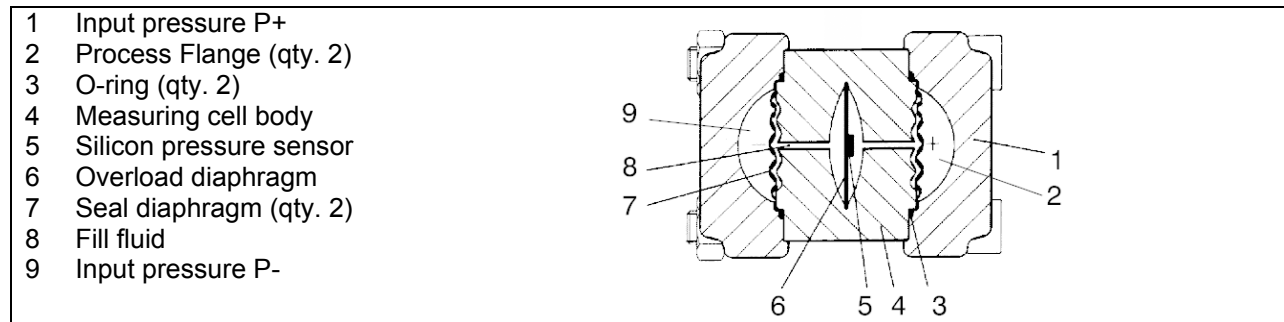

FIGURE 8-3 Differential Pressure and Flow Measuring Cell
Differential pressure is applied to the silicon pressure sensor (4), a seal diaphragm (7) on either side of the measuring cell body, and the fill fluid (8). See Figure 8-3. When measuring limits are exceeded, the overload diaphragm (5) deflects until one of the seal diaphragms (7) comes into contact with the measuring cell body (4) to protect the silicon pressure sensor (3).